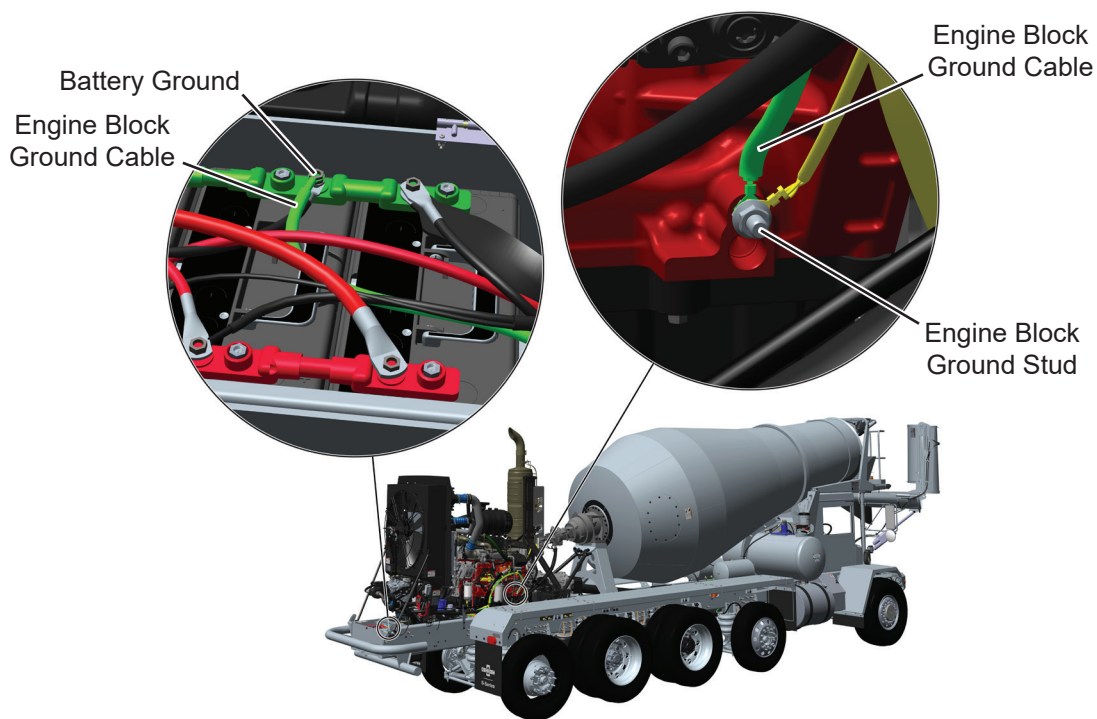

Figure 1 - Engine Block Ground Cable - Hood Removed for Clarity
5. Locate engine block ground stud on right-side. See Figure 1.
6. Make sure 6 gauge dedicated ground cable from battery negative to engine block ground stud is connected to engine block ground stud. See Figure 1. If ground cable is connected to engine block ground stud go Step 10. If ground cable is not connected to engine block ground stud go to Step 7.
7. Loosen and remove nut from engine block ground stud. See Figure 1.